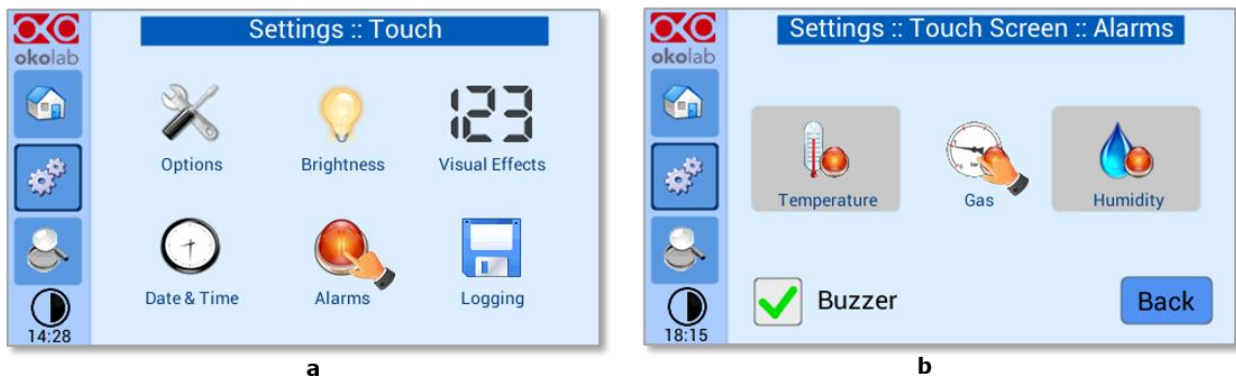

Figure 52. How to enter in Alarms page (a -b)
To set the alarms specifications, press on the Alarms icon ; see Figure 52(a) then follow the indications below:
1. Click on the Gas icon  to set the gas deviations for a period of time then the system triggers on Alarms, as you see in the Figure 52 b.